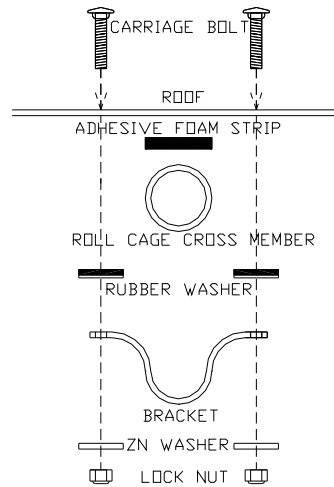

Figure 2
7. Next, attach the roof mount brackets according to **Figure 2**. Use channel locks or pliers to hold top of carriage bolt and turn nut with 1/2" socket.